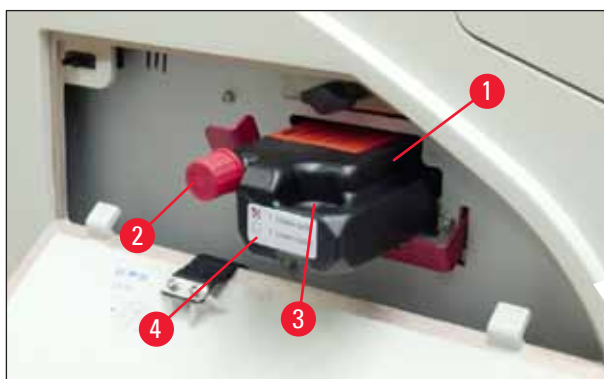

Fig. 57
3. Remove the protective foil and insert the cartridge until it is about half way into the cartridge slot (→ "Fig. 57").